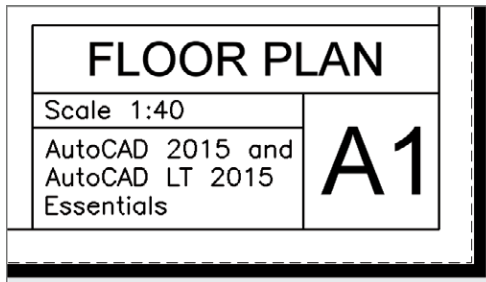

FIGURE 13.5 Annotative text shown in two scales
9. Change the Annotation Scale to 1/2" = 1'-0" (or 1:20 for metric) in the status bar. The text you created appears much smaller. This text will appear 1/8" high in 1/2" = 1'-0" scale (or 0.4 cm in 1:20 scale). Select the text object, and observe both scales simultaneously (see Figure 13.5). Press Esc to deselect.